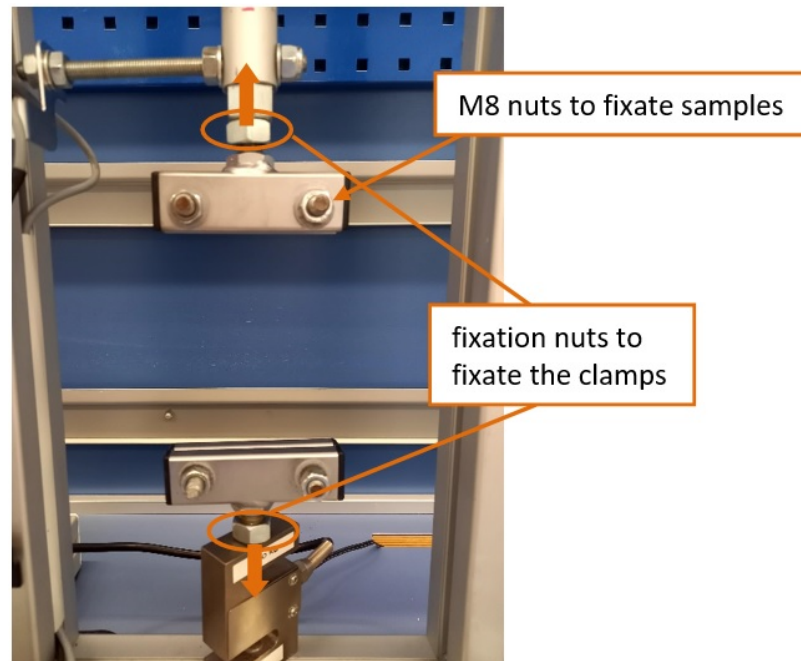

Figure 3: Tensile Test clamps
- c. 3-point bending test (Allen key 3)
a. In the **tensile test setup**, align the clamps such that the sample will be straight, fixate the clamps hand tight using the fixation nuts, make sure that the M8 nuts are on the front to change samples easily, see figure 3.